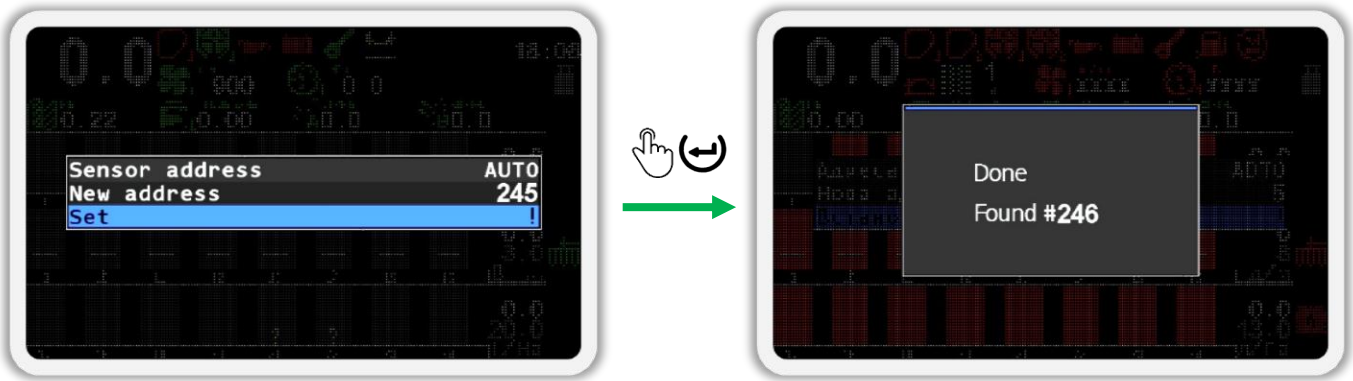

Figure 112
1. In the "Sensors Configuration" menu (see Figure 108 p.4), by using the  "Up" or  "Down" buttons, select the  "Pressure sensor" item and press the  "Menu" button. As a result, the "Pressure sensor" menu will open (see Figure 112 on the left).
2. Using the  "Up" or  "Down" buttons select the  "Sensor address" item and make sure the "AUTO" value is selected (see Figure 112 on the left). Use the  "Plus" and  "Minus" buttons to change this parameter.
3. Using the  "Up" or  "Down" buttons select the  "New address" item and using  "Plus" or  "Minus" buttons enter a new address (see Figure 112 on the left). **The system looks for the first pressure sensor at address 245, the second at address 246, and so on.**
4. Using the  "Up" or  "Down" buttons select the  "Set" item and press the  "Menu" button. As a result of successful readdressing, the message "Done" will be displayed on the screen (see Figure 112 on the right).